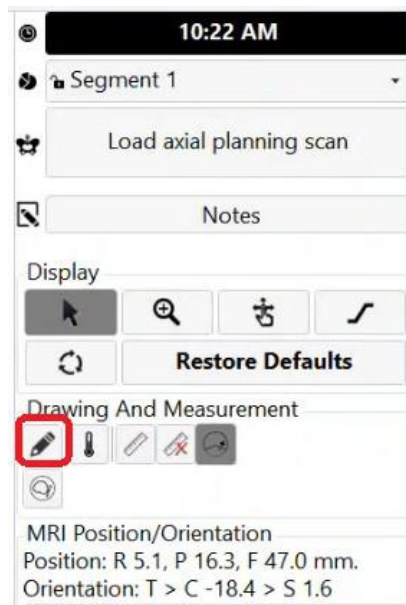

Figure 55: Prostate-boundary 'Drawing' tool on Delivery screen
2. Once delivery is paused, expand the right panel in the Delivery workspace to select the prostate boundary drawing tool (*Figure 55*).